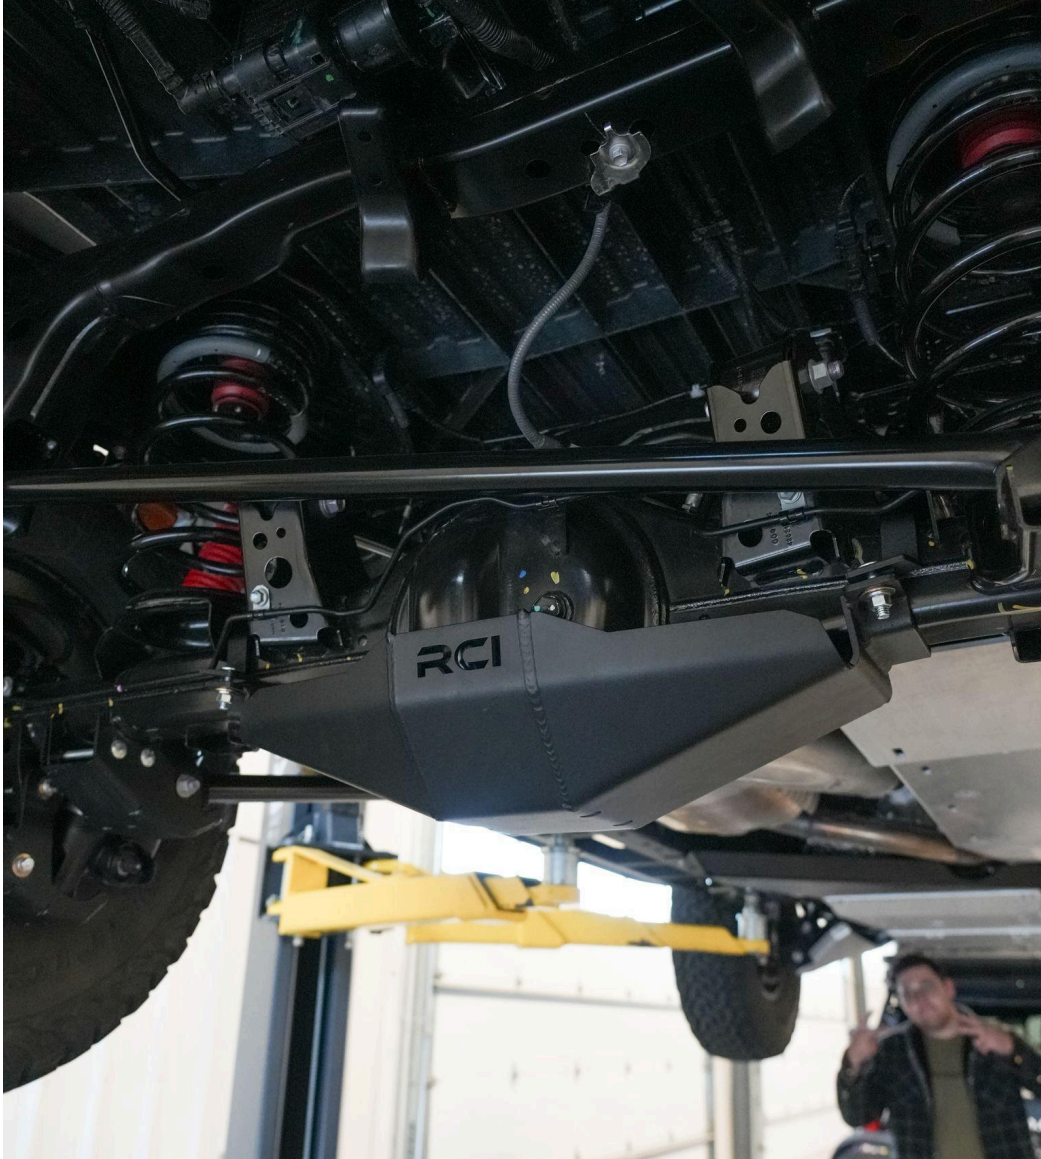

Figure 6 M10 Hex Bolt Correct Installation
4. Once all components are loosely fastened, collect two (2) of each of the included M10 x 20mm Hex Bolt and 3/8" Flat Washer.
5. Thread the M10 Hex Bolts with 3/8" Flat Washers through the Bottom Pinion Mount into the threaded holes on the driver side of the differential as depicted in Figure 6.